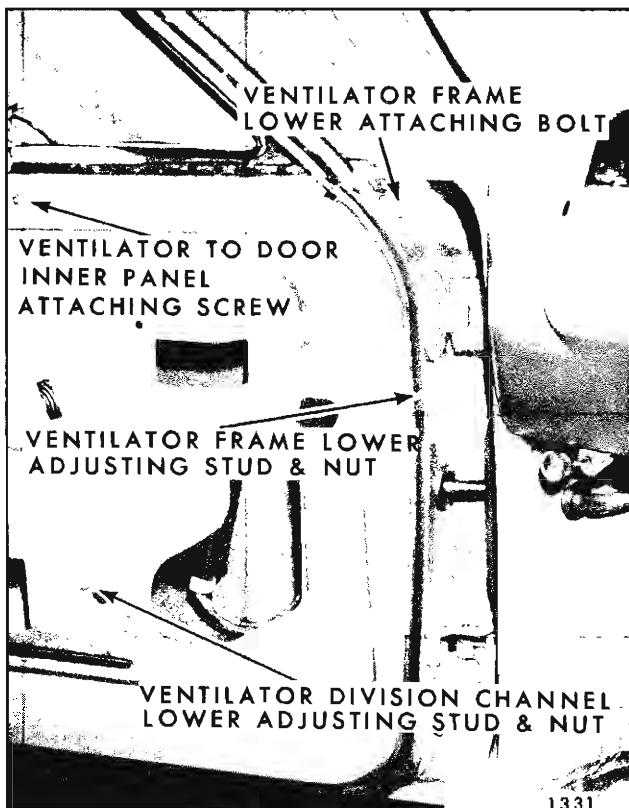

Fig. 2D25—Front Door Ventilator Hardware
3. Remove ventilator division channel lower adjusting stud nut (See Fig. 2D24).